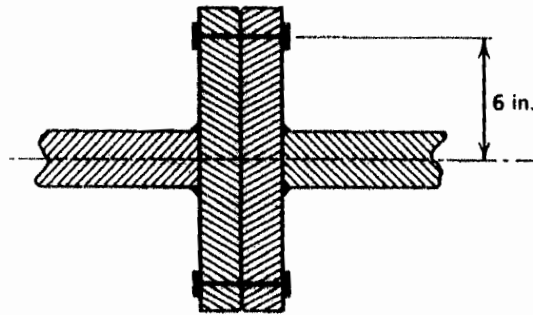

Fig. 3
3. (25%) A shaft coupling (Fig. 3) is to be designed, using 1-inch diameter bolts at a distance of 6 inch from the center of the shaft. Allowable shearing stress on the bolts is 15,000 psi. If the shaft is to transmit 5800 hp at a speed of 1200 rpm, how many bolts are needed in the connection?